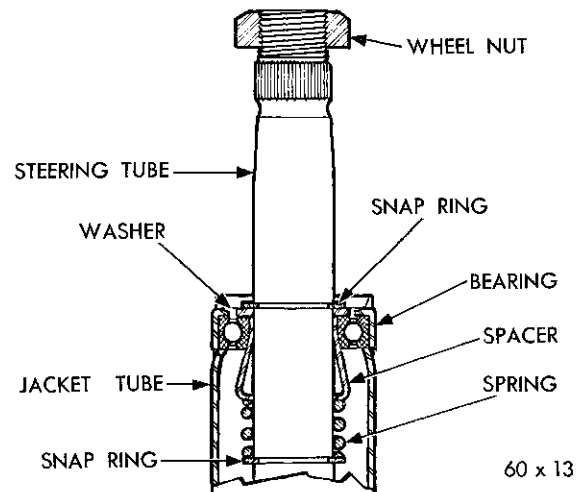
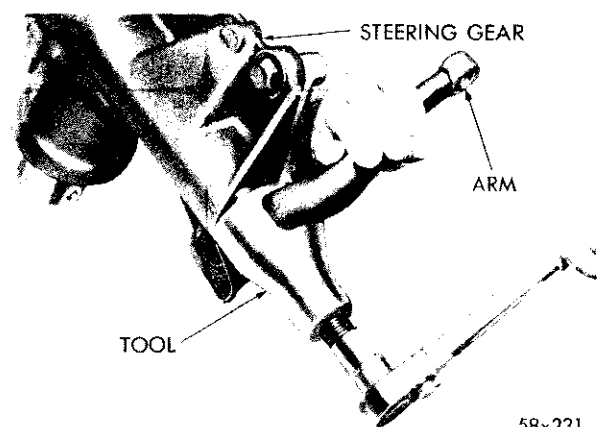

Fig. 20—Jacket Tube Installation (PC-1, 2, 3 and PY-1)
Fig. 22—Removing Steering Gear Arm
- (8) Remove the retainer snap ring (Figs. 20 and 21) from the groove in the steering tube at the top of the bearing using pliers Tool C-3229.
- (9) Remove the jacket tube shield to allow access to the column tube clamp and remove the screws attaching the steering jacket tube clamp at the instrument panel and remove the clamp.
- (10) Raise the carpet to expose the floor panel. Move the rubber grommet up on the jacket column.
- (11) Remove the screws attaching the rubber dust boot at firewall. (On Imperial cars, remove the floor inspection panel.)
(12) Loosen the jacket tube clamp at the steering gear housing.
(13) Remove the cotter key and nut at the drag link and disconnect the link from the steering arm.
(14) Remove the steering arm nut and washer at the steering gear shaft.
(15) Slide Tool C-3646 up on the steering arm and place the shoe of the puller behind the steering arm (Fig. 22). Tightening the tool center screw against the gear shaft, will pull the steering arm from the gear shaft.